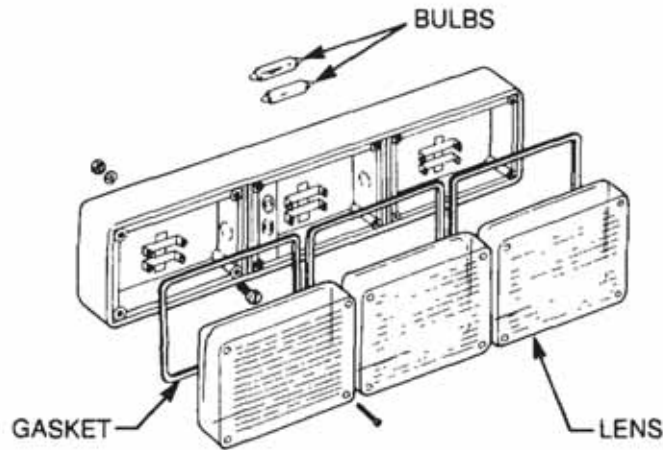

Figure 22 Stop/Tail, Reversing and Indicator Light – Exploded View
56. **Lamp Replacement.** Replace faulty lamps as follows (Figure 22):
57. **Light Assembly Replacement.** Replace the light unit assembly as follows (Figure 22):